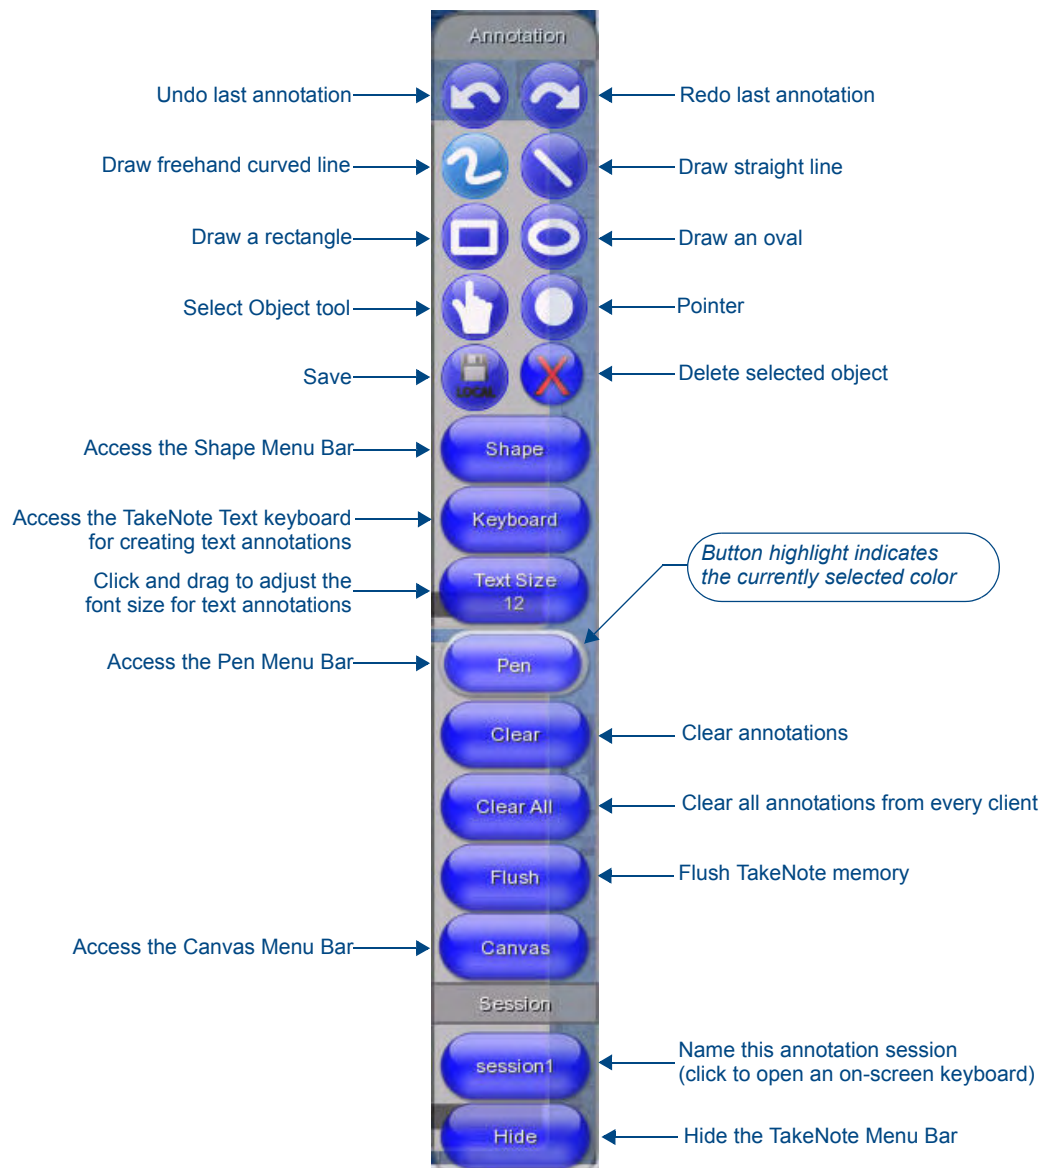
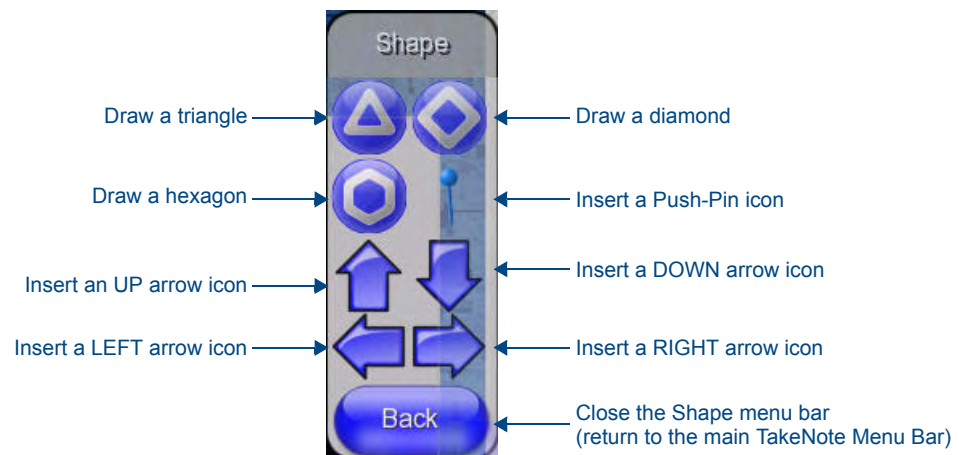

FIG. 100 TakeNote Menu Bar - detailed view
FIG. 108 TakeNote - Shape Menu Bar
The options in the TakeNote Menu Bar (FIG. 100) are described below:
1. Select the Straight Line tool from the TakeNote Menu Bar (see FIG. 100 on page 170).
1. Select the Rectangle tool from the TakeNote Menu Bar (see FIG. 100 on page 170).
1. Select the Oval tool from the TakeNote Menu Bar (see FIG. 100 on page 170).
Use the options in the Shape Menu Bar (see FIG. 108 on page 175) to draw triangles, diamonds and hexagons (see the *Shape Options Menu Bar* section on page 175 for details).
Click the **Shape** button in the TakeNote Menu Bar (see FIG. 100 on page 170) to access the Shape Menu Bar shown in FIG. 108: